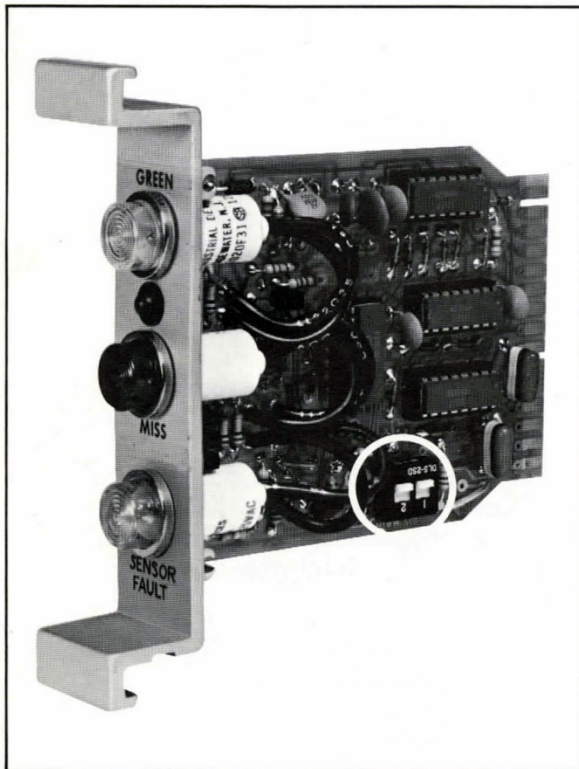

Figure 36. The IC-410 Switches.
- 10b. Start the press and push the Ready button twice, while depressing the Green push button. At the end of the second Ready signal, the IC-410 module's Sensor Fault lamps should light, and the press should stop. Additionally, the Main or Auxiliary Stop lamps should illuminate, depending upon the IC-410 Module's internal programming via switch position (see Figure 36 and note "Switch #2").